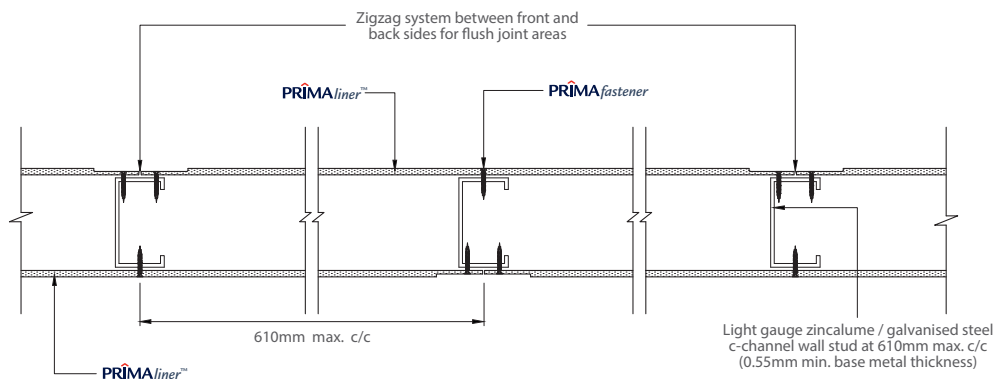

Figure 8: Vertical Flush Joints in Zigzag System between Front and Back Sides.
- e. Install the vertical flush joints in zigzag pattern. Vertical flush joints at both partition sides shall not connected at one point in the same stud frame. Refer to Figure 8 for vertical flush joints in zigzag system between front and back wall sides.